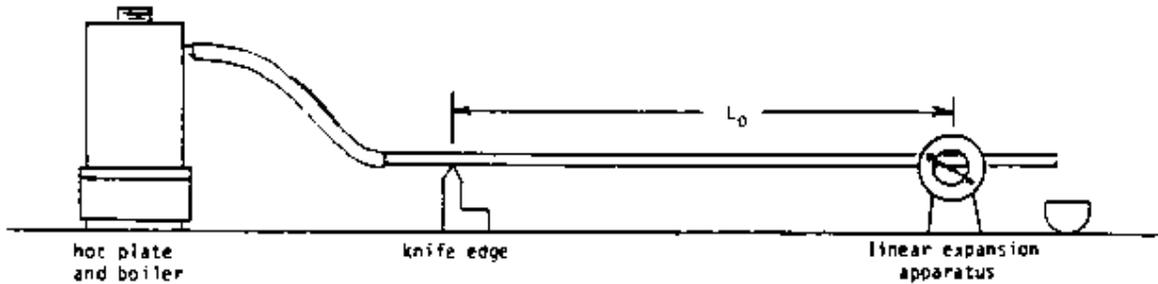

Figure 3. The experimental arrangement.
- b) Set up the apparatus as shown in Figure 3. The rod is connected to the rubber tube, the small groove in the rod is placed on the knife-edge, and the rubber sleeve encircling the rod is placed on the axle of the linear expansion apparatus. Pour water into the boiler until it is approximately 1/4 full, and securely plug the boiler with the rubber stopper.